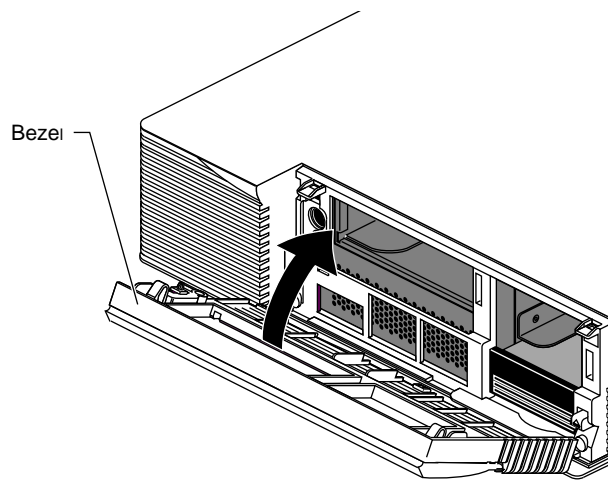

Figure 2-30 Replacing the Bezel
4. Replace the bezel (Figure 2-30).